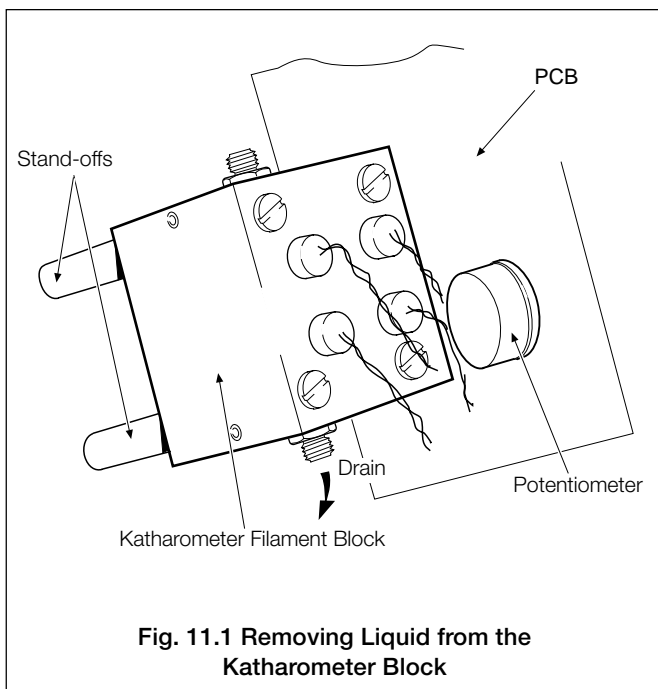

Fig. 11.1 Removing Liquid from the Katharometer Block
11.4.1 Removing Liquid from Katharometer Measurement Block – Fig. 11.1
- f) Remove the katharometer filament block assembly from the case and tilt at 45° to the horizontal. This allows any liquid to drain from the measurement block. See Fig. 11.1.